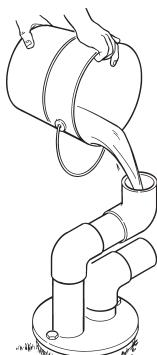

Figure 11
- While holding the pipes SECURELY, fill them with water to make sure that the connections and check valve do not leak (See Figure 11). The pipes should hold water. If they leak, remove the pipes and find the leak. Remake the leaking joint with teflon tape or retighten the clamp. Repeat the installation and the fill-check until the pipes do not leak.